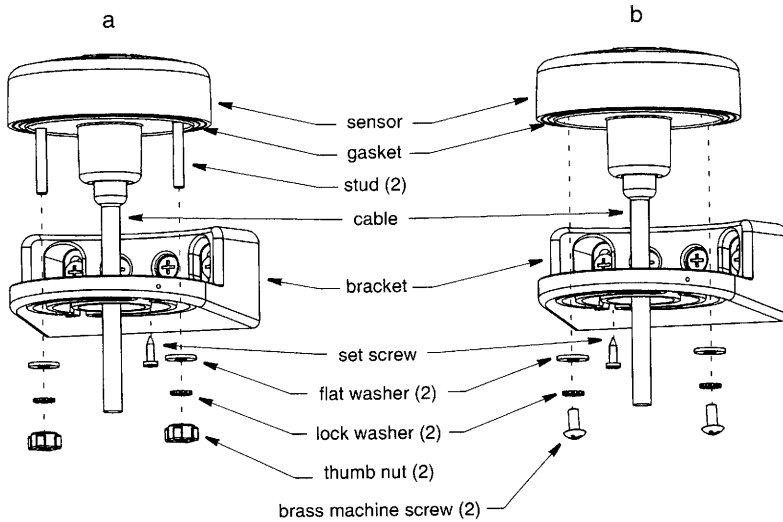

Figure 3. Installing the sensor in the mounting bracket
1. Feed the cable through the mounting bracket (see Figure 3).